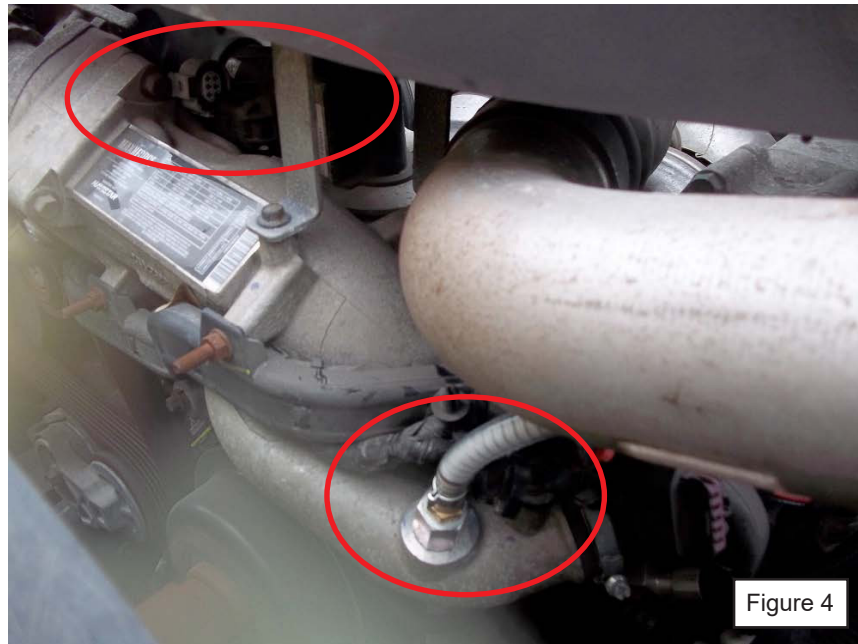

Figure 4
5. Install EGR Adapter (EEDF400-645) (see figure 4) in place of above EGR temperature sensor.